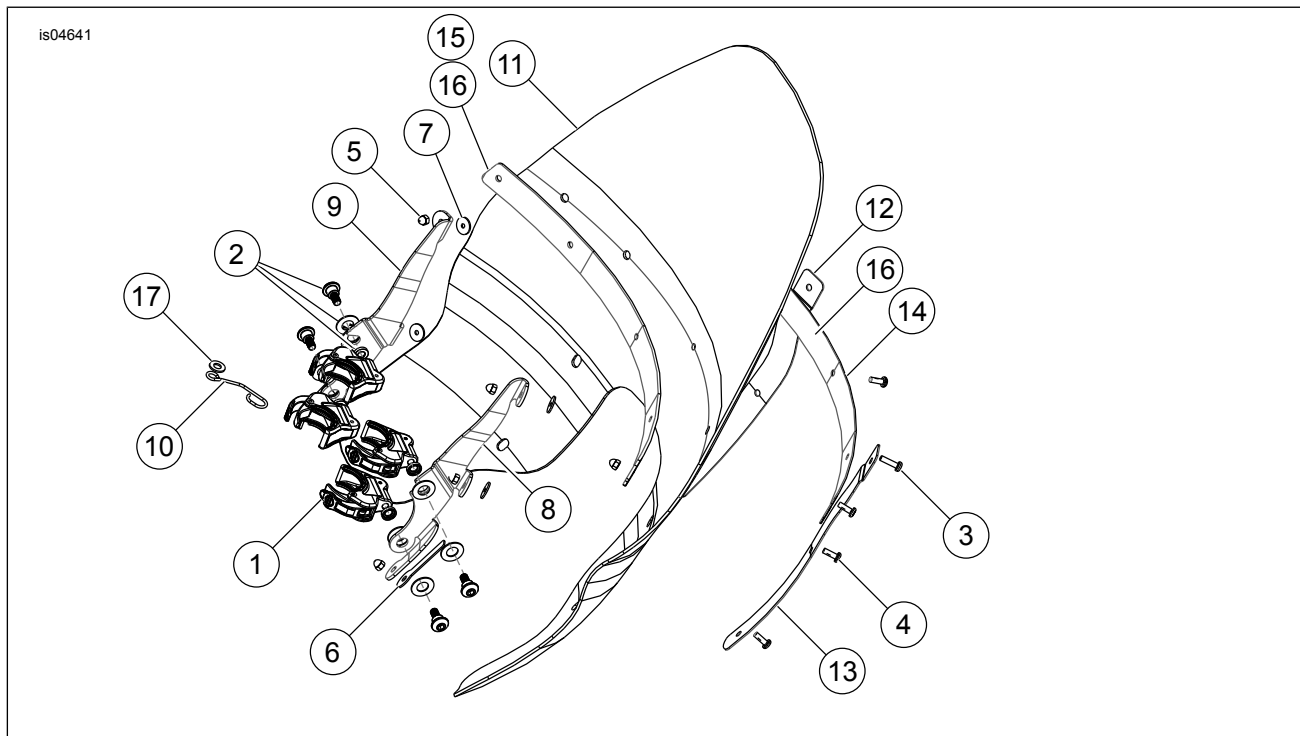
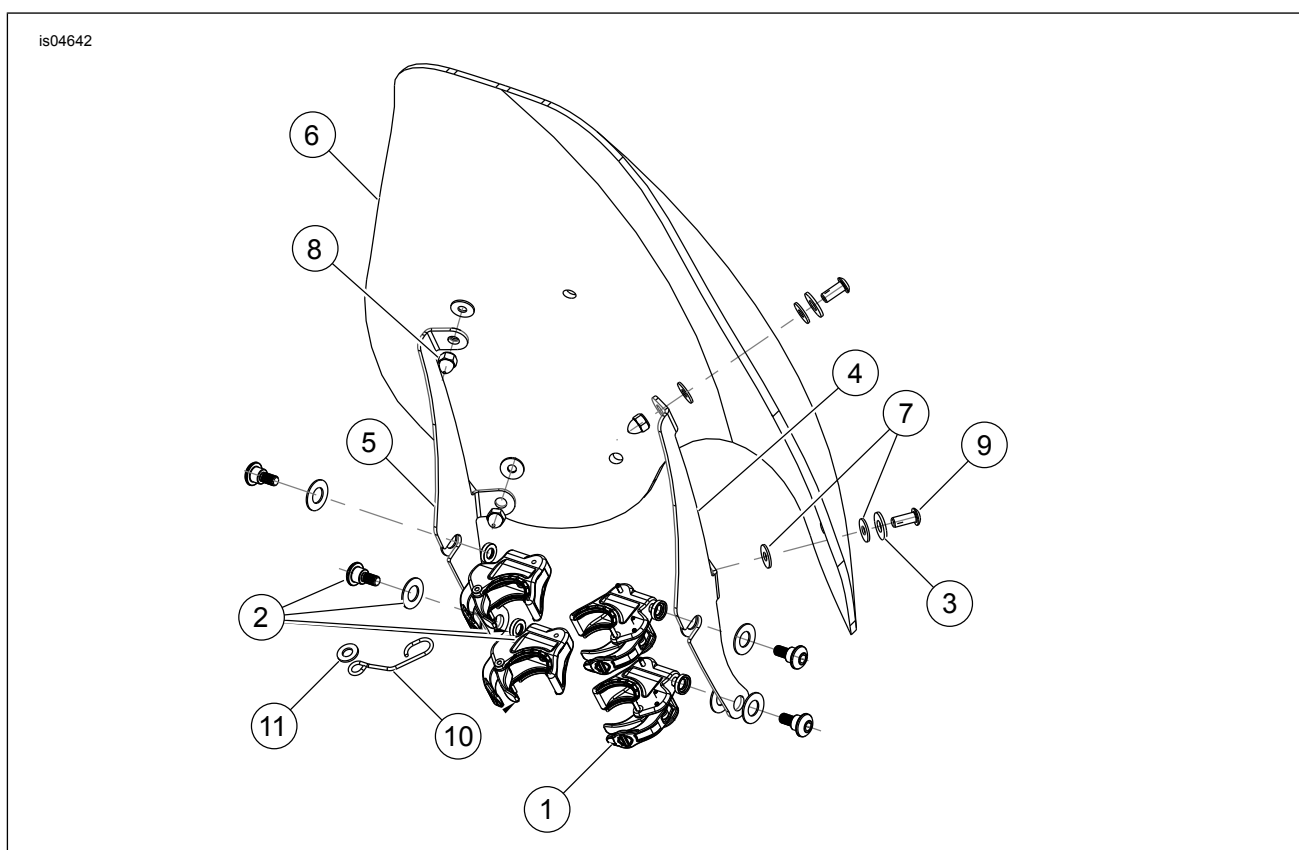

Figure 13. Service Parts: Touring Windshield
Figure 14. Service Parts: Super Sport Windshield
2. See Figure 13 or Figure 14. Remove both clamp and hardware kits from packaging, and separate similar parts in preparation for assembly.